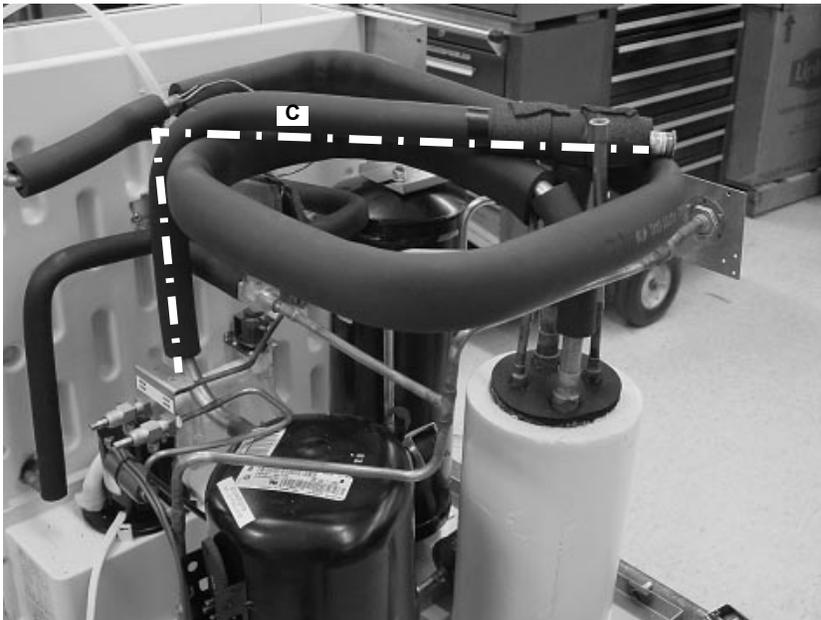

Figure 30.
27. Place the Heat Exchange Suction Line assembly (C) in the unit (Figure 30). This assembly is the largest, and contains the expansion valves and hot gas solenoid.
28. Place the Compressor Suction Inlet Line (C) in the unit (dashed line) (Figure 30).